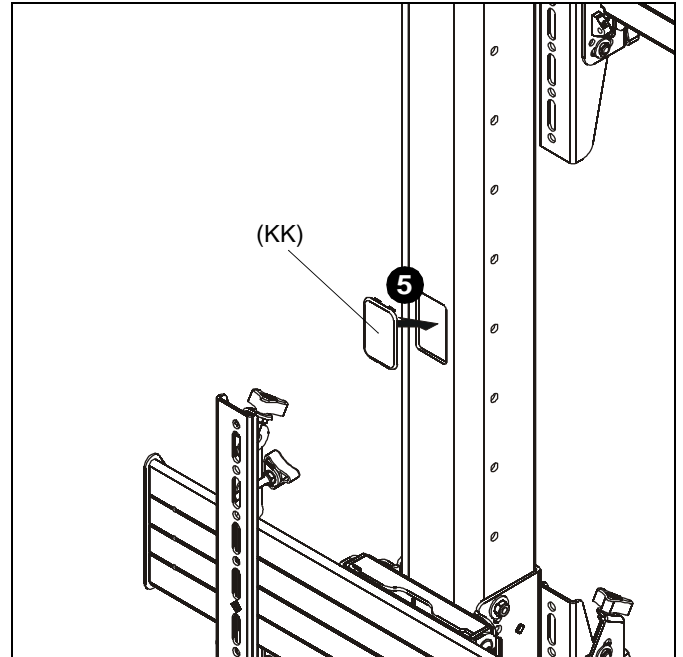

Figure 20
5. For any cable management holes that are not used, snap covers (KK) may be used to cover holes as desired. (See Figure 20)